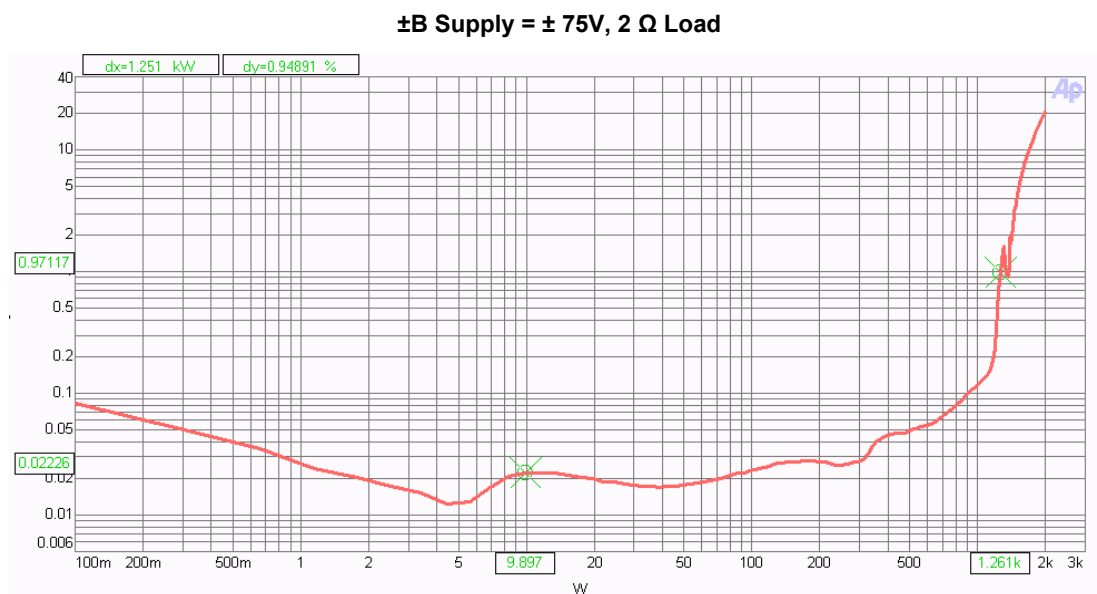

Figure 2 THD+N vs. Power
24. Run Ap test programs for all subsequent tests as shown in Figure 2 below.